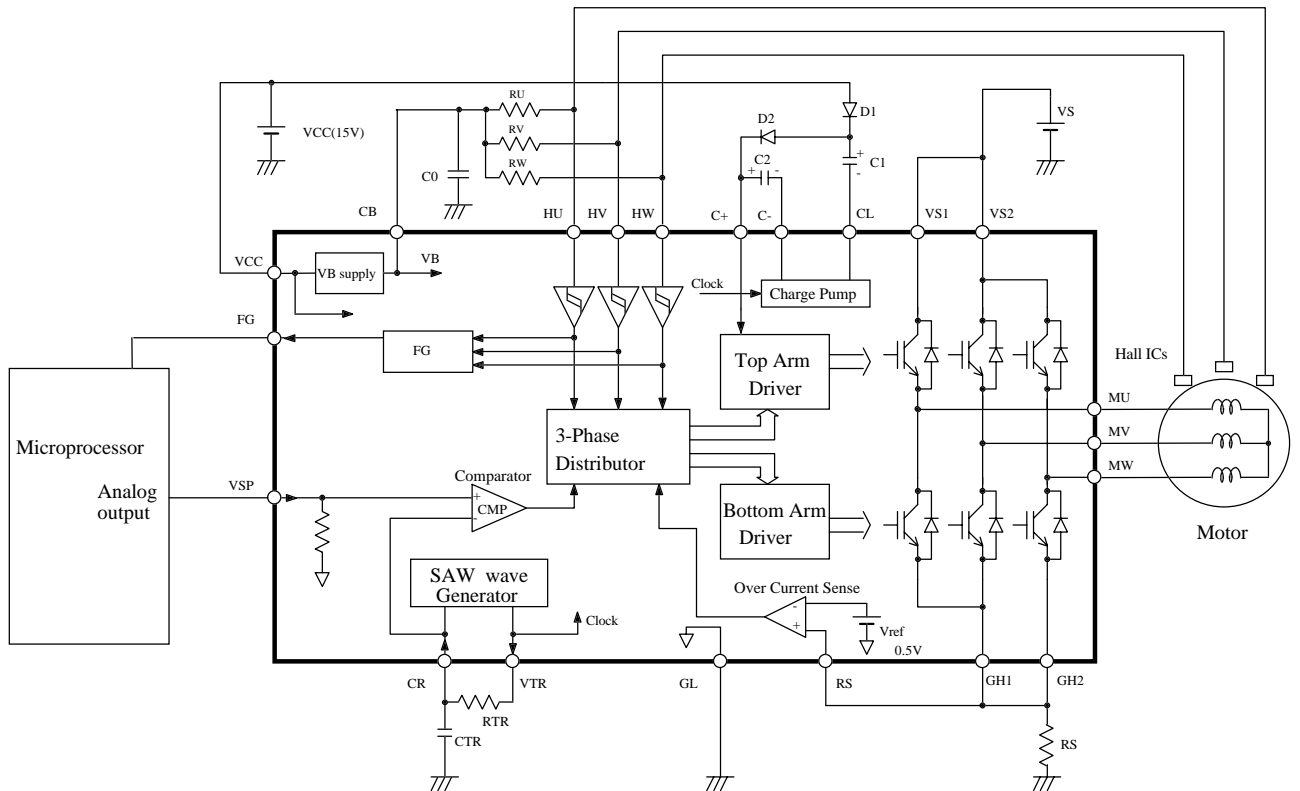

Fig. 1 Block diagram
ECN3018 is a single chip 3-phase bridge inverter IC which has 6 IGBTs in the circuit. Especially, it is very suitable for controlling the speed of three-phase DC brushless motors to which converted AC100~115V power supplies are applied. Fig. 1 shows the internal block diagram.
- The charge pump circuit is operated by the clock inside the IC. Looking at Fig. 1, when CL is 0V, this circuit charges C1 capacitor, while the charge comes from Vcc via D1. Next, the voltage of CL terminal goes up to VS and the charge which C1
- Diodes D1, D2 should be connected to these terminals.(Ref. Fig. 1) When using diodes with axial leads, it is recommended to use high speed diodes, like Hitachi diode DFG1C4(400V, 1A, 100ns, glass mold type), DFM1F4(400V, 1A, 100ns, resin mold type). High voltage diodes are needed because CL is changed from 0V to VS.
- Capacitors C1, C2 should be connected to these terminals. (Ref. Fig. 1) Top arm IGBTs are driven by the voltage which is charged in these capacitors. It is recommended that the capacity of the capacitors should be  $1.0\mu\text{F}\pm 20\%$ . When other capacitors are used for them, the voltage(VCP) between C+ and C- should not be under 10V. The stress voltage in the capacitors exceeds Vcc because of the circuit operation.